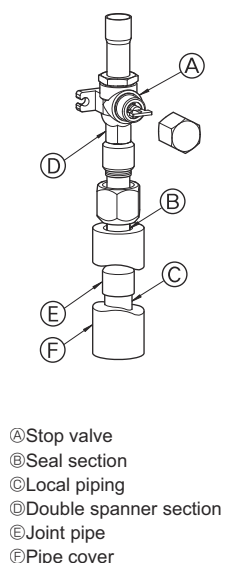

Fig. 4-3
- ③ Use the following procedure for connecting the gas-side piping. (Fig.4-3) (SHW230)
- 1 Brazing the ⑧ Joint pipe provided to the outdoor unit using locally procured brazing materials and ⑨ Local piping without oxygen.
- 2 Connect the ⑧ Joint pipe to the gas-side Stop valve.